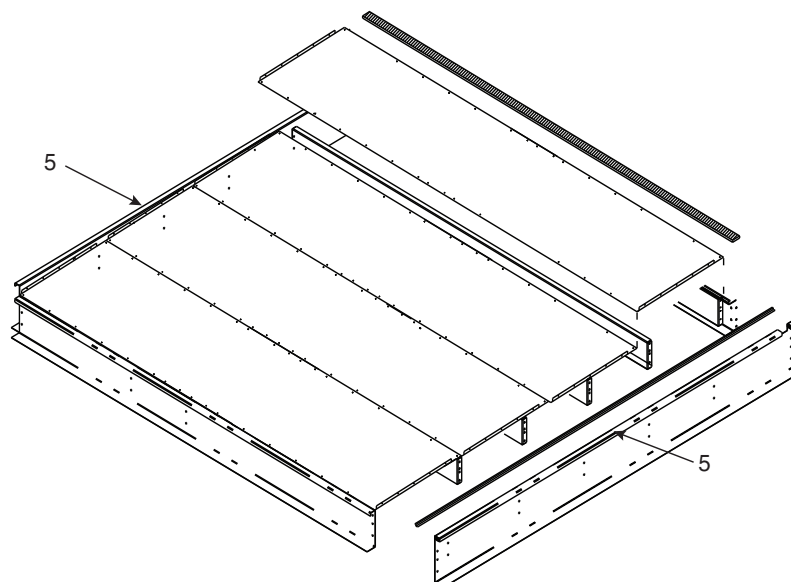

Fig. 8 — Gasket Location — Condenser Section Roof Curb
1. Along both side rails (1) — 2 places, full length
2. Along return air end rail (2) — 1 place
3. Around return air internal duct flange (3) — 1 or 2 places
4. Around supply air internal duct flanges (4) — 3 places
5. Along supply section base rail (5) — 1 place
Condenser Section Roof Curb (See Fig. 8) — Apply single-thickness gasket along both side rails (5).